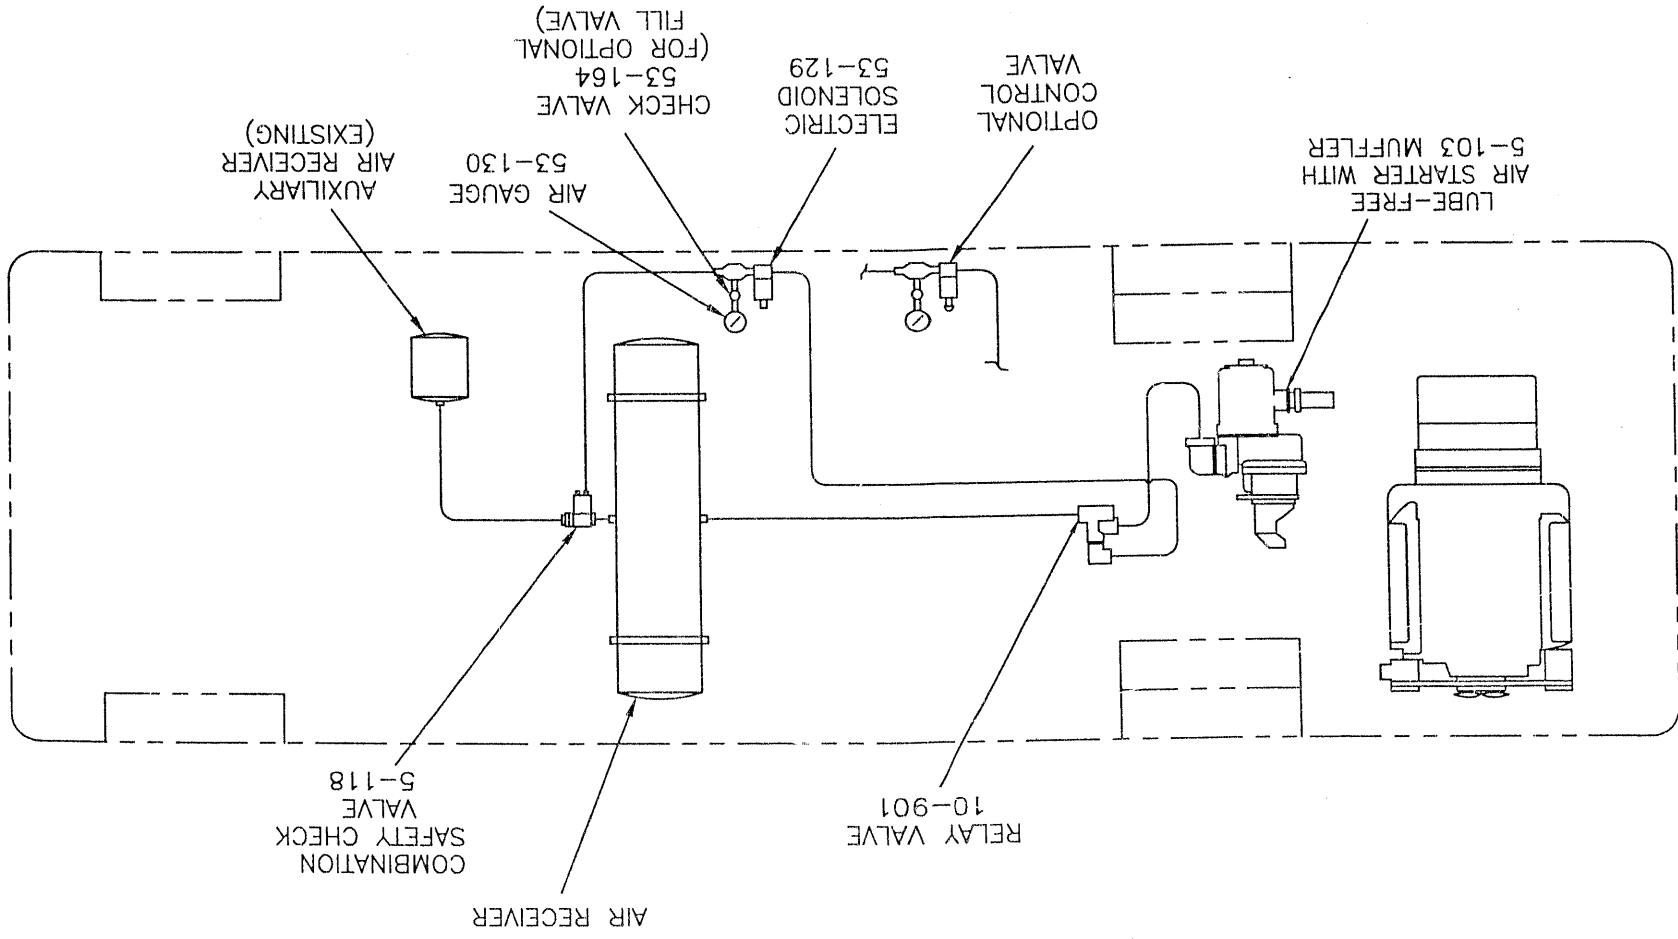

FIGURE 3. TYPICAL TRANSIT BUS AIR STARTING SYSTEM
Before installing the starter, it should be noted that the three (3) major housings of the starter may be rotated a full 360°. Refer to Figure 3.
2. Align the three (3) bolt holes in the mounting flange with the proper bolt holes in the flywheel housing. Install and properly torque the three bolts.